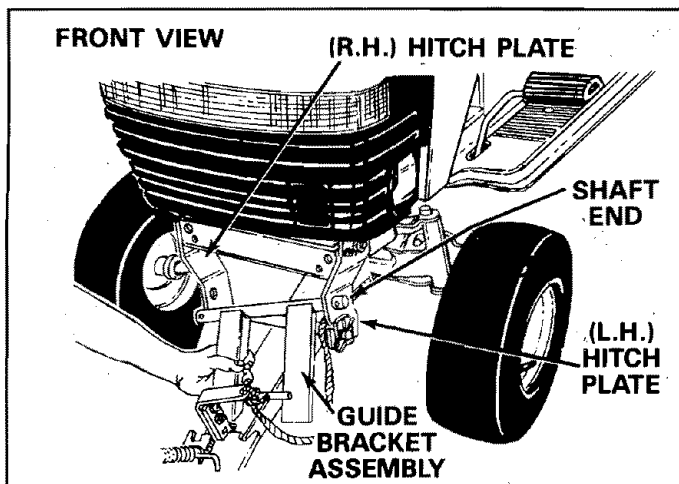
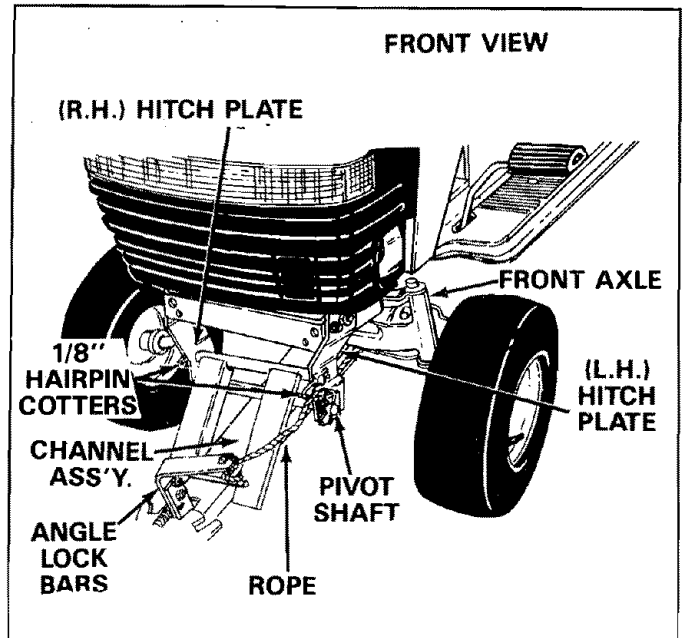

FIGURE 21
FIGURE 22
27. Assemble guide bracket assembly shaft end into the left hand hitch plate. See figures 21 and 22. Slide guide assembly back to the right and into hole in the right hand hitch plate. Secure with a 1/8" (large) hairpin cotter in each end. See figure 22. Lower front end of guide bracket assembly to straddle channel assembly.
28. Secure rope to top hole in angle lock bars. See figure 22. Thread rope as shown, under left hand side of tractor, proceeding over pivot shaft, inside left hand hitch plate, under front axle and tie rod, continuing outside of frame up to tractor steering column. See figure 22. Tie rope securely to steering column, taking up most of the slack in rope.